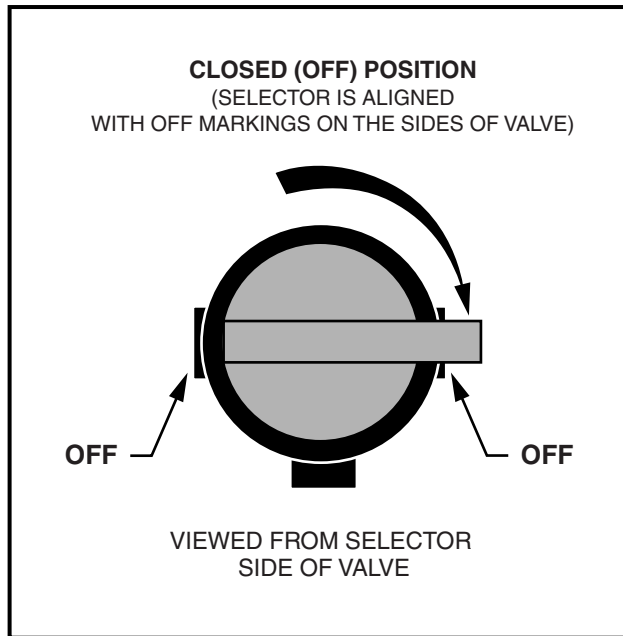

Figure 3-3 Fuel Shut-off Valve – Closed Position
- Turn fuel shut-off valve to closed (OFF) position (Figure 3-3, Page 3-3).
- 4.1. Place the Forward/Reverse handle in the NEUTRAL position and the neutral lockout cam in the SERVICE (MAINTENANCE) position. Turn the fuel shut-off valve to the closed (OFF) position (**Figure 3-3, Page 3-3**) and run the engine until fuel remaining in the carburetor and fuel lines is depleted and the engine stalls. Return the neutral lockout cam to the OPERATE position.